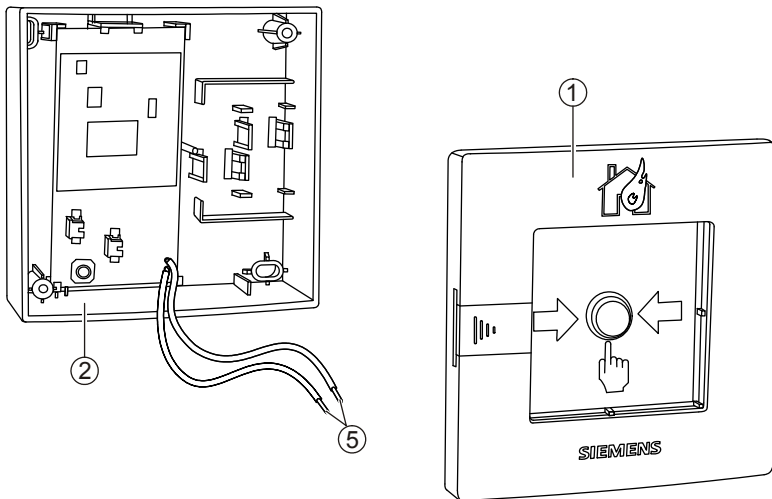
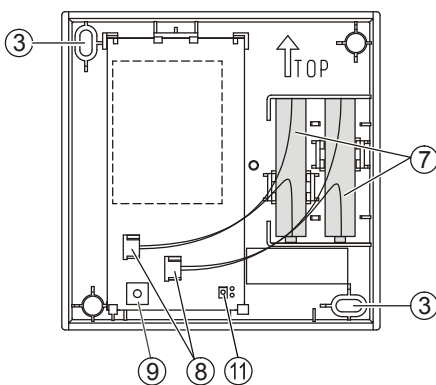
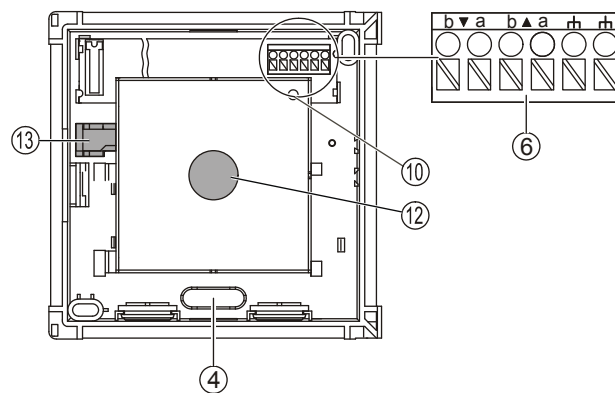

Fig. 1
Fig. 2
Fig. 3
When combined with manual call point SMF121 (Fig. 1, [1]), radio base SMF6120 (Fig. 1, [2]) is used to manually trigger alarms in the event of fires. The manual call point and a radio gateway (e.g. FDCW221) are connected wirelessly.
1. Use appropriate screws to secure radio base (Fig. 1, [2]) to a plane surface at a height of 1.3...1.6 m. Use the mounting openings for this purpose (Fig. 2, [3]).
2. Use a suitable key to open door of manual call point (Fig. 1, [1]).
3. Break open opening (Fig. 3, [4]) on rear of manual call point's housing.
4. Guide two connection cables (Fig. 1, [5]) from radio base through opening (Fig. 3, [4]) into manual call point.
5. Clip one connection cable (Fig. 1, [5]) to each of the terminals 'b▼' and 'b▲' in the terminal strip (Fig. 3, [6]).
7. Use screws supplied to secure manual call point (Fig. 1, [1]) on radio base (Fig. 1, [2]).
1. Use a suitable key to open door of manual call point (Fig. 1, [1]).
2. Loosen retaining bolts in manual call point and lift manual call point off radio base (Fig. 1, [2]).
3. Press alarm pushbutton (Fig. 3, [12]).